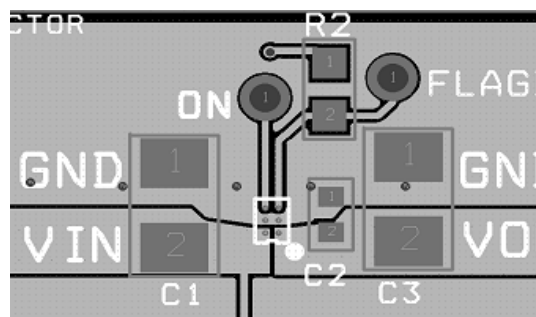

Figure 24. FPF202X proper layout
- The  $V_{IN}$ ,  $V_{OUT}$  and GND pins will dissipate most of the heat generated during a high load current condition. Using wide traces will help minimize parasitic electrical effects, along with minimizing the case to ambient thermal impedance. The layout suggested in Figure 24 provides each pin with adequate copper so that heat may be transferred out of the device as efficiently as possible. The low-power FLAGB and ON pin traces may be laid-out to maximize the area available to the ground pad.